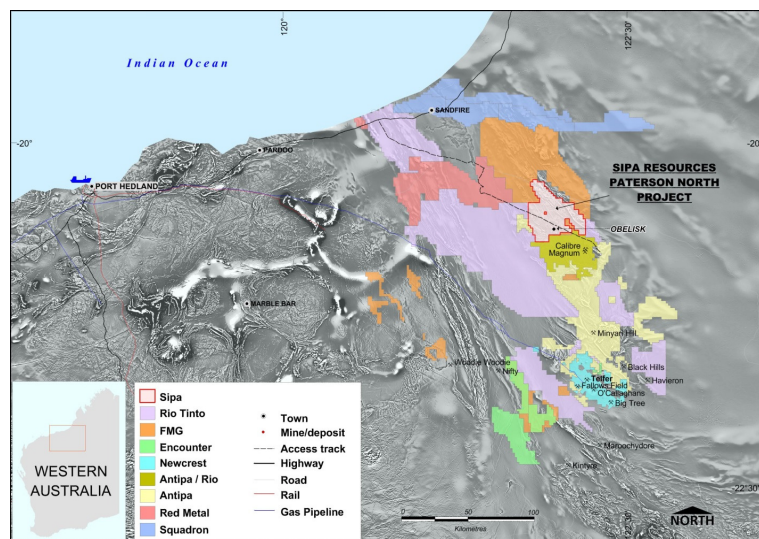

Figure 1: Paterson North Project Location showing access and major tenement holders
- Interest in the Paterson North district continues to grow with **exploration tenements now pegged all the way to the coast**, with Rio Tinto and FMG the largest holders (Figure 1). Sipa's ground-holding is now surrounded on all sides by Rio Tinto and FMG.
Sipa Resources Limited (ASX: **SRI**) is pleased to advise that it continues to make strong progress with the 2018 exploration field season at its **Paterson North Copper-Gold Project** in WA (Figures 1 and 2) with the initial phase of reconnaissance drilling completed and deep diamond drilling set to commence later this month at the high-priority **Obelisk** target